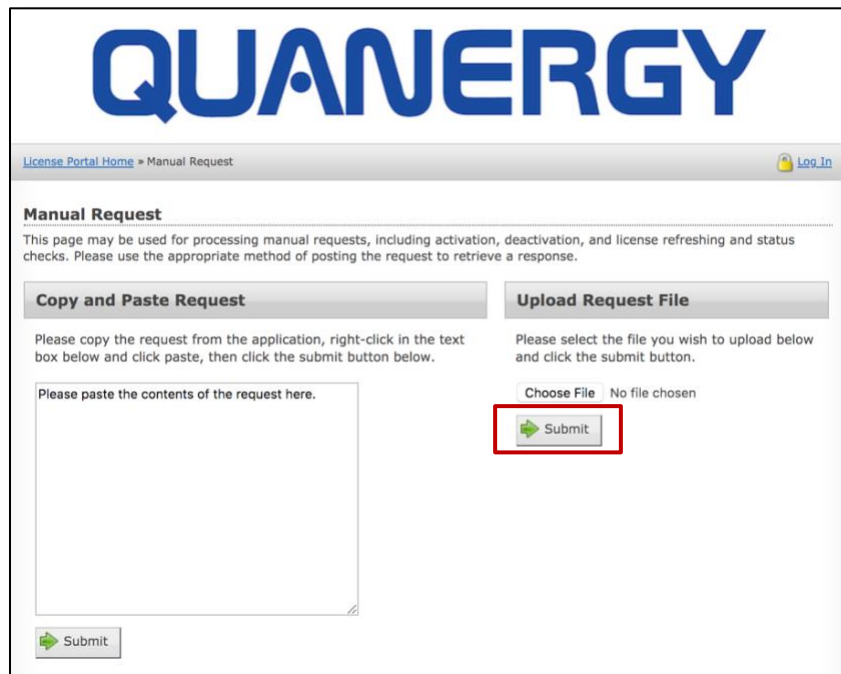

Figure 14. Customer License Portal Manual Request
6. In a browser, navigate to this page of the **Customer License Portal**. See *Figure 14. Customer License Portal Manual Request*.